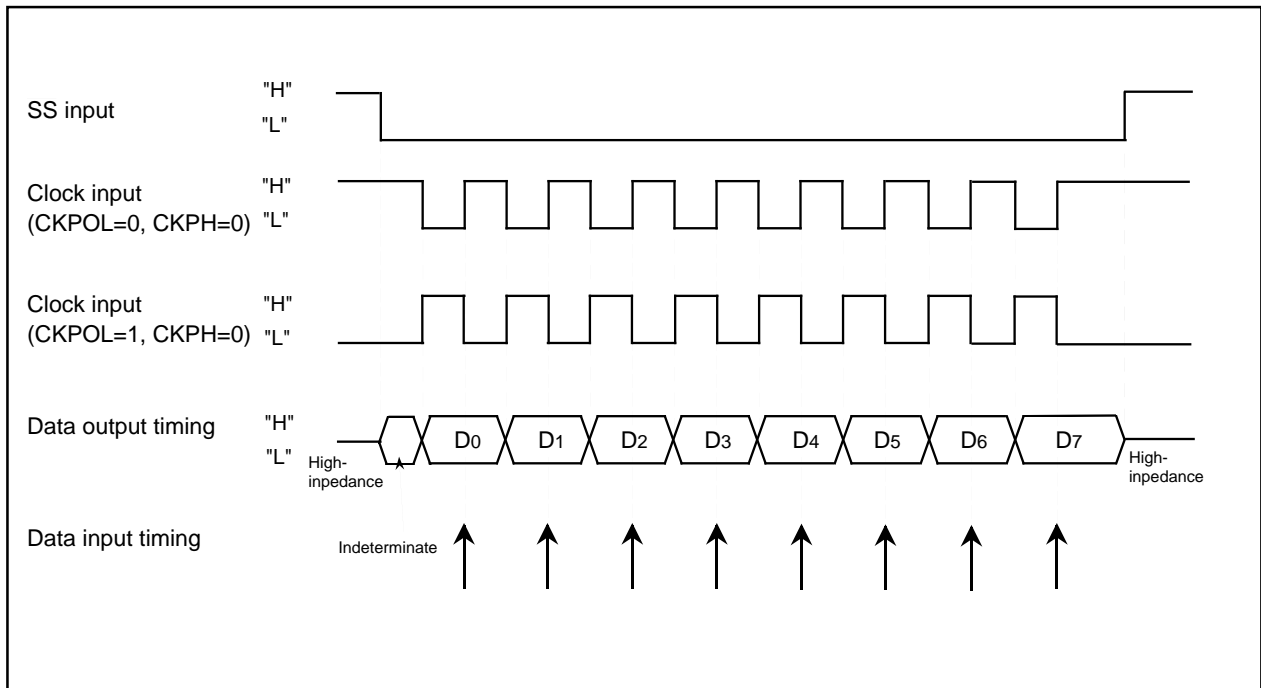

Figure 1.20.8. The transmission and reception timing (CKPH=0) in slave mode (external clock)
- With "0" for bit 1 (CKPH) of UARTi special mode register 3 (addresses 032516 and 02F516 [i = 3 or 4]), when an SSi input pin is H level, output data is high impedance. When an SSi input pin is L level, the serial transmission start condition is satisfied, though output is indeterminate. After that, serial transmission is synchronized with the clock. Figure 1.20.8 shows the timing.